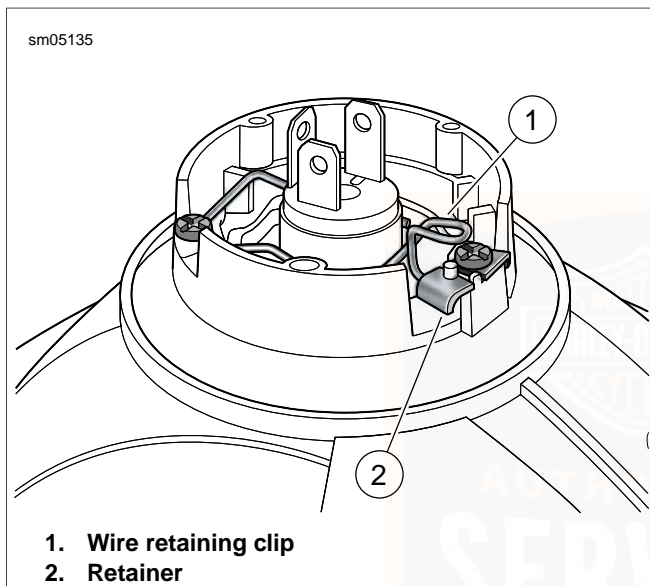

Figure 59. Wire Retaining Clip
6. See Figure 59. Release wire retaining clip (1) from retainer (2).